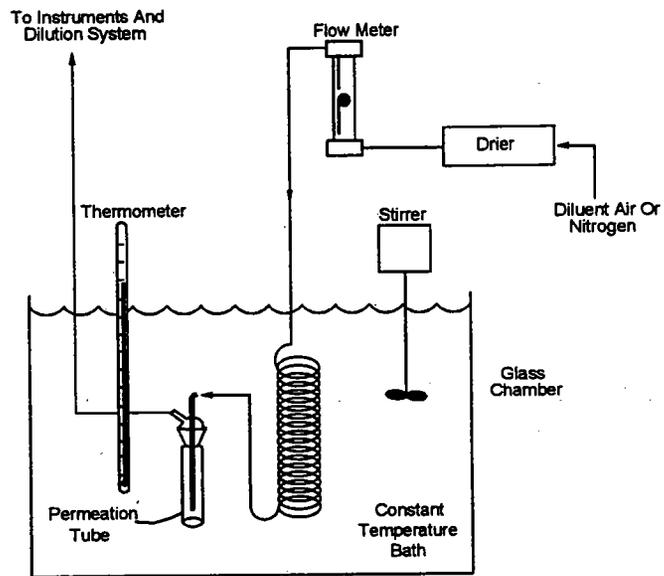

Figure C15-1. Apparatus for Field Calibration.
5. Calibrate each stage of the dilution system using a known concentration of H_2S from the permeation tube system. (See Figure C15-1.) Determine from the GC/FPD the concentration of the diluted calibration in ppm to within $\pm 13\%$ (or $\pm 5\%$ for Method 16) precision. Then calculate the dilution factor.